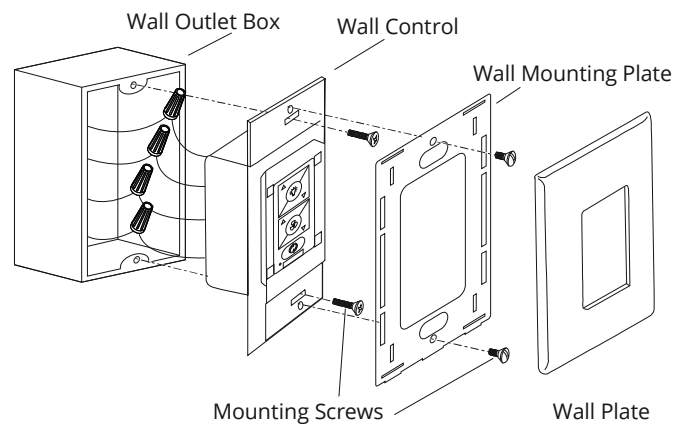

FIG.14
1. Carefully tuck the wire connections inside the outlet box. Secure the wall control with the 2 wall control screws provided (**FIG. 14**).